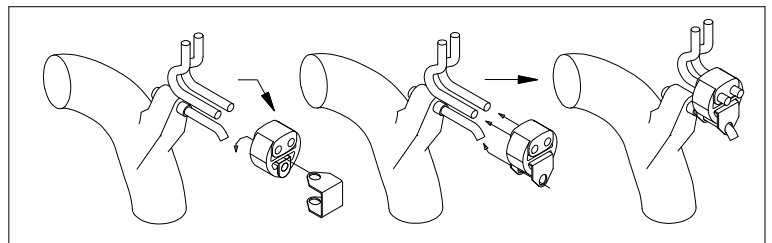

Figure E2
2. **Lower the exhaust.** Some trucks may need the exhaust pipe lowered slightly. If the tail pipe has less than 1/4" clearance between it and the hitch use the lowering bracket that is supplied in the kit. Slide it through the lower slot in the rubber hanger and turn downward. This will allow the tube on the tailpipe to slide through the bracket and lower the pipe slightly to give clearance for the hitch, see Figure E2.